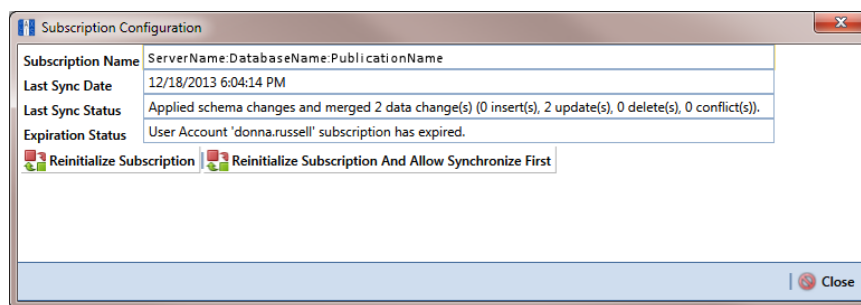
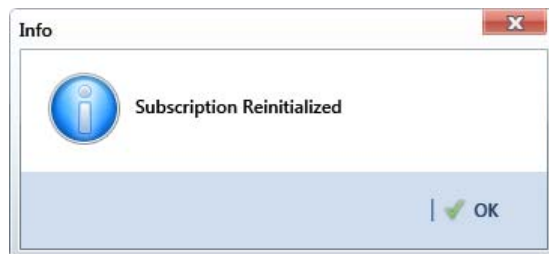

Figure 16-12. Subscription Configuration/Re-initialize Subscription
Figure 16-14. Subscription Reinitialized
- 2 Click **Tools > Subscription Configuration** to open the *Subscription Configuration* dialog box (Figure 16-12, page 646).
NOTE: The server name, database name, and publication name for the subscription display in the field *Subscription Name* (Figure 16-12, page 646).
- 5 Click  **OK** when the message *Subscription Reinitialized* displays (Figure 16-14). Then click  **Close** to close the *Subscription Configuration* dialog box (Figure 16-12, page 646).